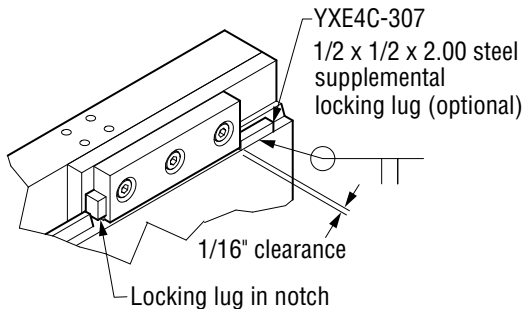

Figure 4-3, Locking Lug
8. Weld on the supplemental locking lug that is supplied with the attachment, (two pieces of 1/2" x 1/2" x 2.00" steel included with the attachment) with either E-6011 or E-6013 welding rod, or equivalent, on each side of the truck carriage. (Figure 4-3)